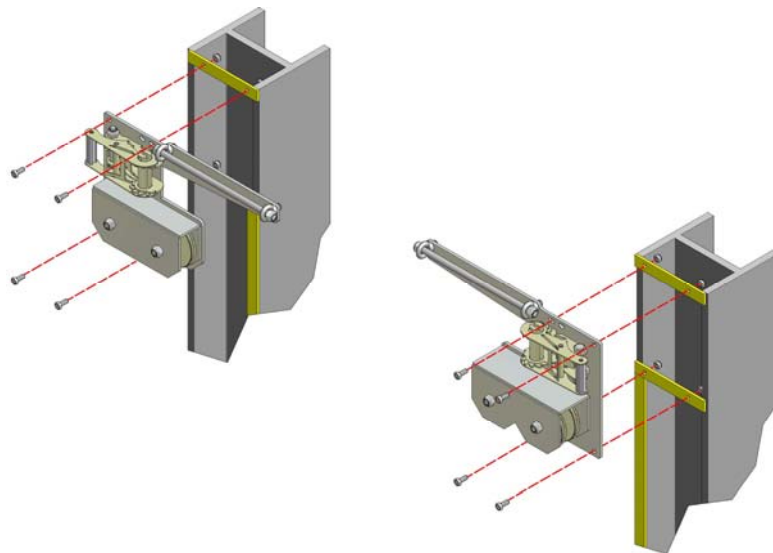

Figure 24
8.2 Replacing Section 2.1: Top Plate Assembly: Bolt the Top Plates (G1 and G3) to the pre-installed brackets on the Tracking top with the eight M8 x 30 bolts supplied (Figure 24). Note that Top Plate G3 has a 'W' shape on the pulley bracket.